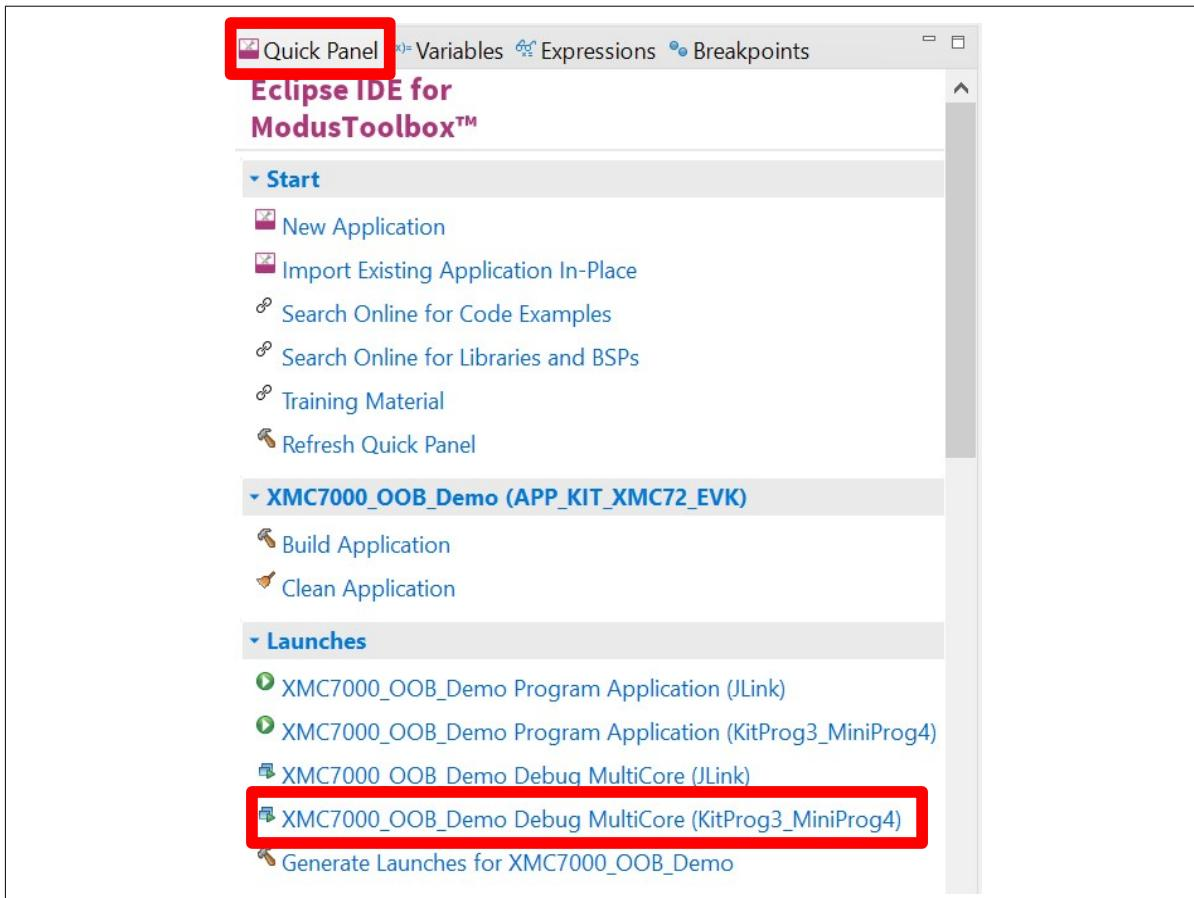

Figure 13 Debugging in the ModusToolbox™ software
5. ModusToolbox™ software has an integrated debugger. To debug a XMC7200D application, in the Project Explorer, select <App_Name> project. In the Quick Panel, scroll to the **Launches** section and click the <App_Name> Debug (KitProg3_MiniProg4) configuration as shown in Figure 13. For more details, see the “Program and debug” section in the Eclipse IDE for ModusToolbox™ user guide